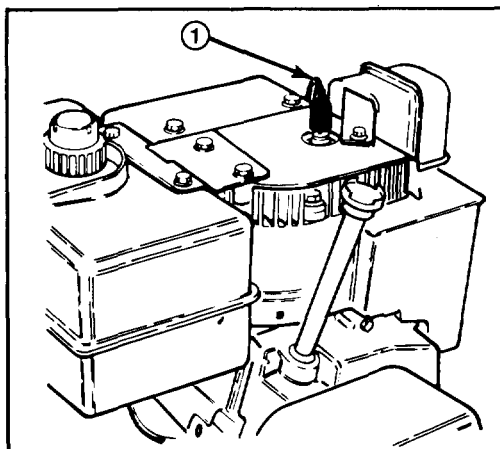

Figure 33
- Clean area around spark plug so foreign matter cannot fall into cylinder when plug is removed (Fig. 33).